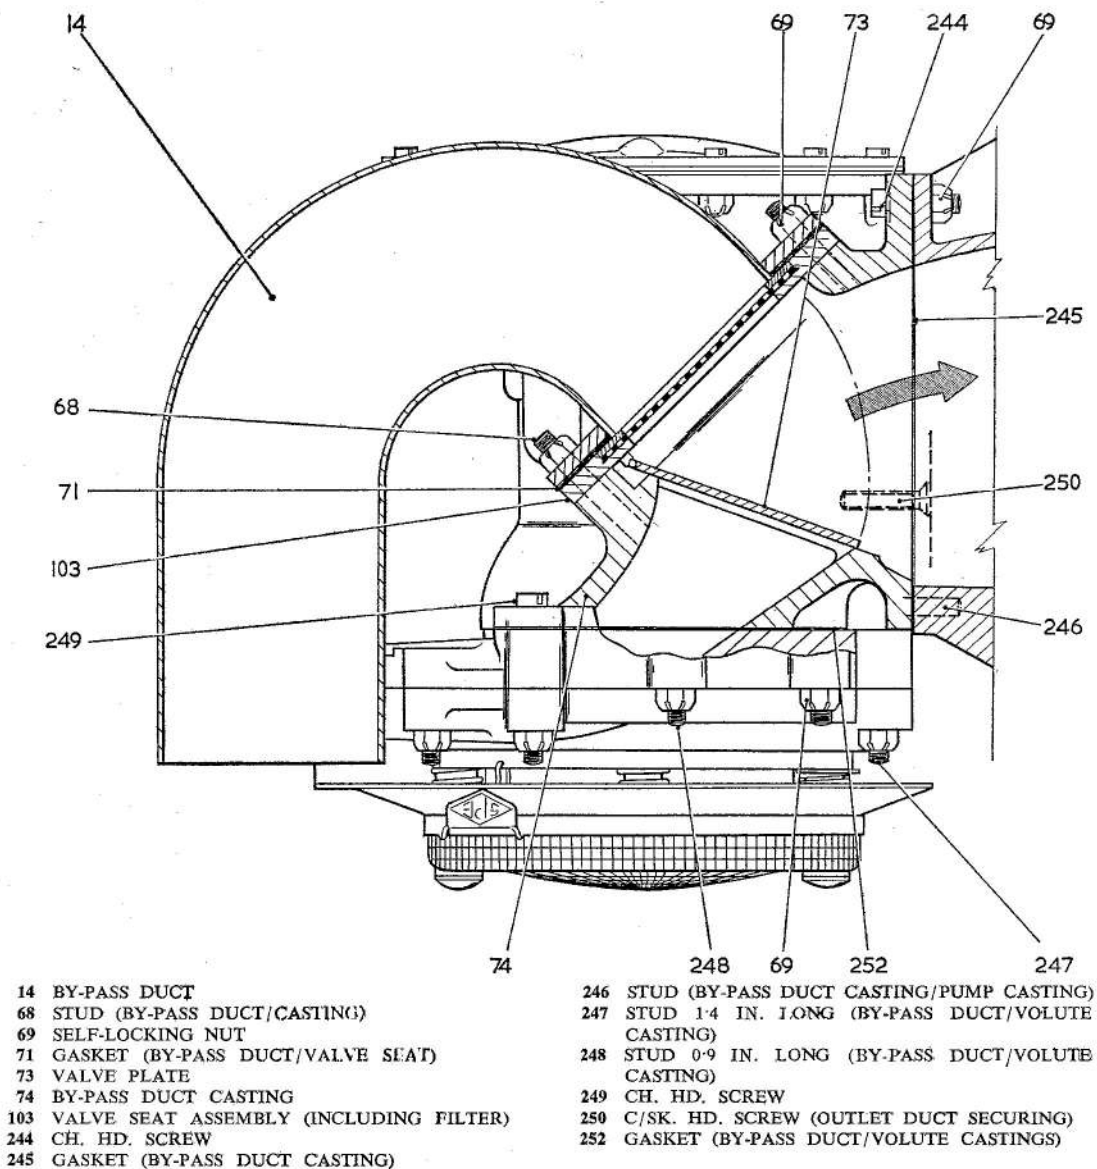

Fig. 28. By-pass duct assembly
2. Reconditioning instructions for SPE 1204 pumps are generally similar to the instructions for the equivalent marks of SPE 1214 pumps, the only difference being in the by-pass duct casting (fig. 28, item 74). The SPE 1204 pump has no provision for pressure refuelling through the unit and the by-pass duct casting does not include a machined seating face for the by-pass valve plate (73). In all other details SPE 1204 pumps are identical to SPE 1214 pumps.
Removing the outlet duct casting (fig. 28)